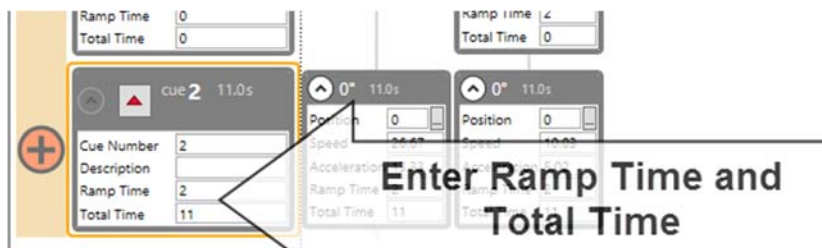

Figure 47
15. Rather than adjust the **Speed** and **Acceleration** values, let's have Spikemark do the math to figure out how fast to move both machines if we want the cue to last 11 seconds. Enter 2 into the **Ramp Time** field and 11 into the **Total Time** field of *Cue 2* (Figure 47).